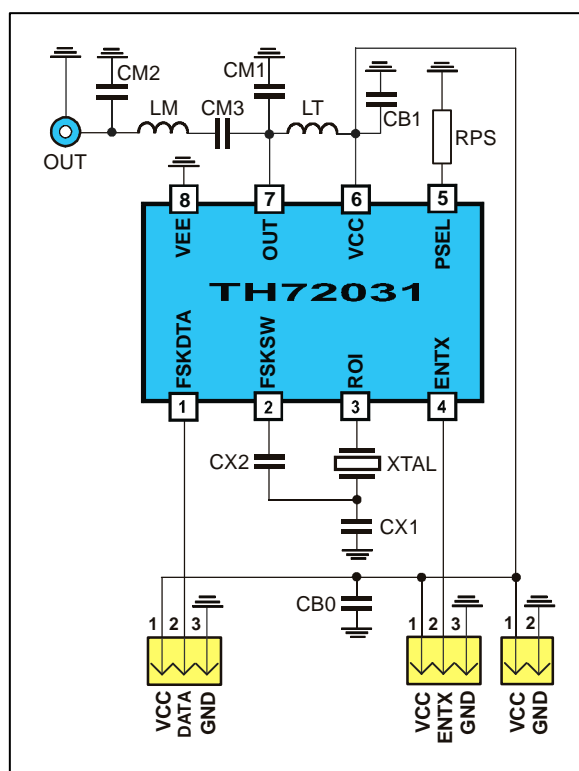

Fig.18: Test circuit for FSK with 50 Ω matching network
- Data according to test circuit in Fig. 18 (868.3MHz)
6.1 Test circuit component list to Fig. 18